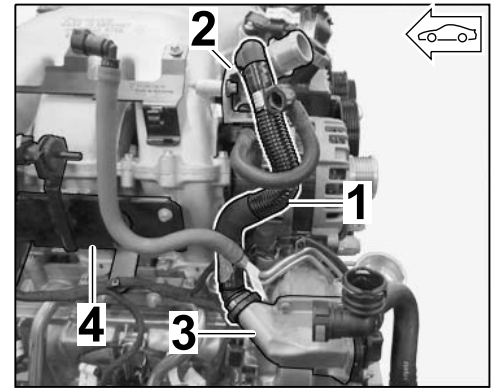

Figure 18
2.5.6 Fit new vent line for cylinder head 1-3 (⇒ *Figure 18*).
2.5.7 Fit holder for engine wire harness (2 x, side) on lower part of intake-air distributor for cylinder 1-3 (⇒ *Figure 18 -4-*)/cylinder 4-6 (⇒ *Workshop Manual '975219 Removing and installing wire harness for engine'*).